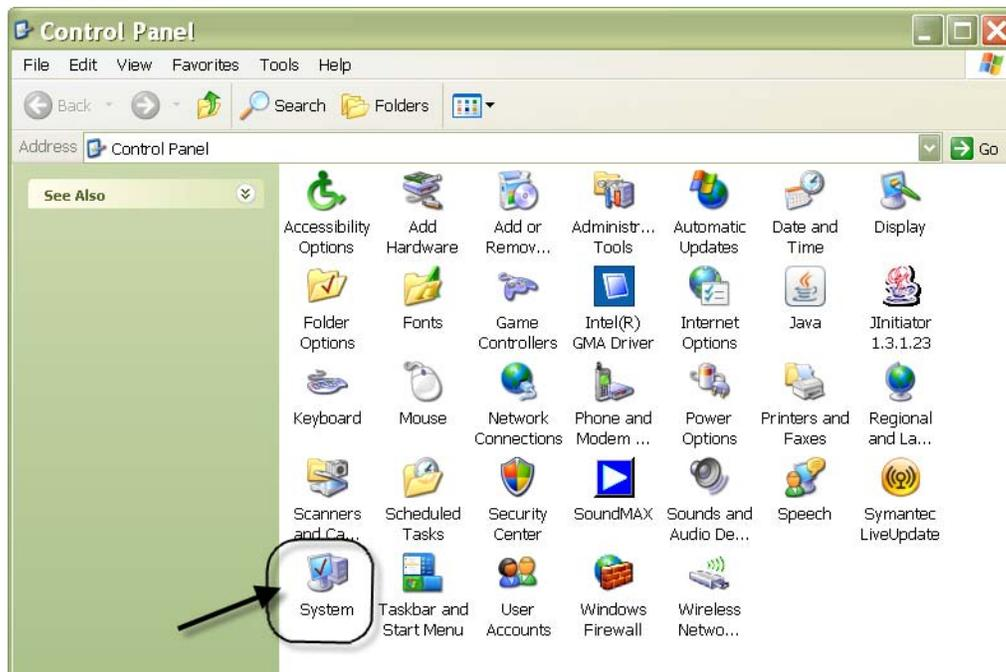

FIG. 251
2. The Control Panel is shown in FIG. 251.